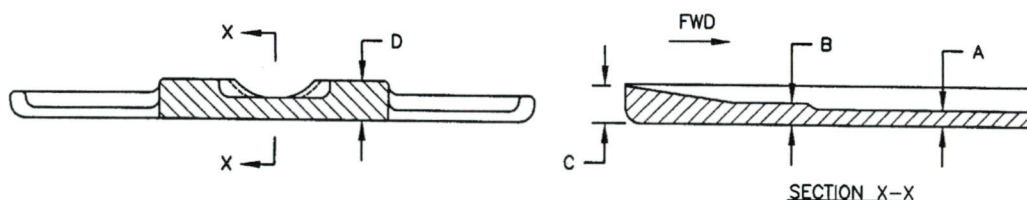

Figure 5-2: Damage Limit Diagram
2. In the shaded region of Figure 5-2, the bearpaw may be worn by a maximum of 0.250" (6.36mm) down to the minimum allowable values specified in Table 5-1. Outside the shaded region of Figure 5-2, (ie. in the pockets) it is acceptable to have worn areas up to a maximum of 0.125" (3.18mm) deep over a maximum area of 2 sq. in (1290 sq. mm). The edge of one damaged region must be a minimum of 2" (51mm) away from the edge of next nearest damaged region.
3. Cracks are acceptable in the unshaded portion of Figure 5-2 as long as they are restricted to the pockets of the bearpaws. Cracks that penetrate the stiffening ribs of the unshaded regions are unacceptable. Stop drill all cracks up to 0.50" (12.7mm) long with Ø0.188" (Ø4.78mm) drill.